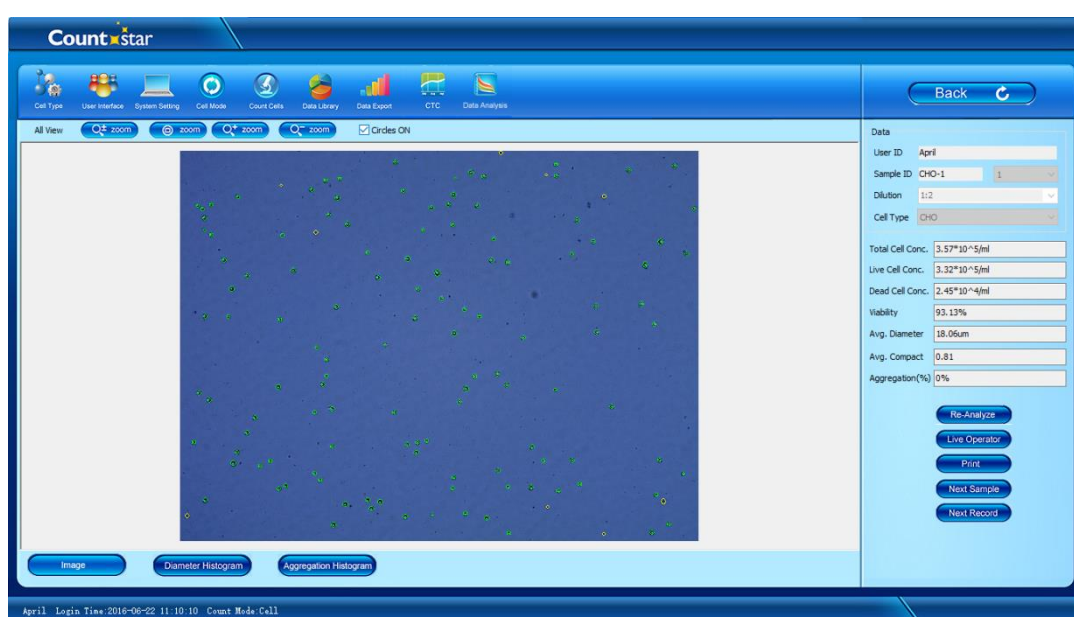

Figure 6 Measurement results window
10. It takes approximately 20 seconds to analyze each single sample. The results include the cell concentrations for total, living, and dead cells, the viability, the average diameter and compactness, and the percentage of aggregation of the cells will be displayed on the result screen (Figure 6).
Results are automatically displayed in the same window (Figure 6) after analysis is completed. Previous results can be viewed in the menu **Data Library**.